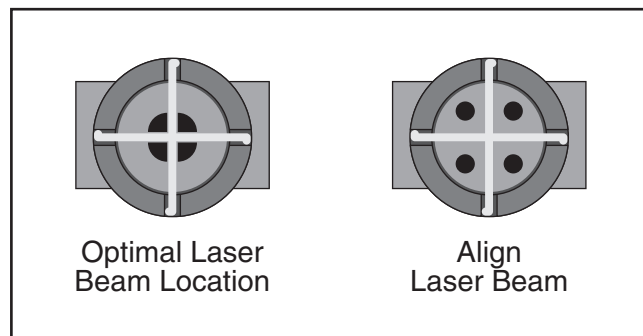

Figure 108. Laser beam alignment marks.
13. Close top loading door and check alignment by pressing Pulse button on control panel. Compare results with **Figure 108** below.
16. Verify mirror adjustment by pressing Pulse button on control panel. Compare results with those shown in **Figure 108** on **Page 72**.
18. Check alignment by pressing Pulse button on control panel. Compare results with those shown in **Figure 108** on **Page 72**.